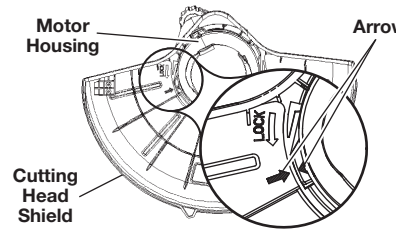

Fig. 3
1. Align the arrow on the cutting head shield with the arrow on the motor housing (Fig. 3).
2. Twist the cutting head shield counterclockwise, in the LOCK direction (Fig. 3), until it snaps into place. Make sure the cutting head shield is assembled as shown in the *Know Your Unit* section.